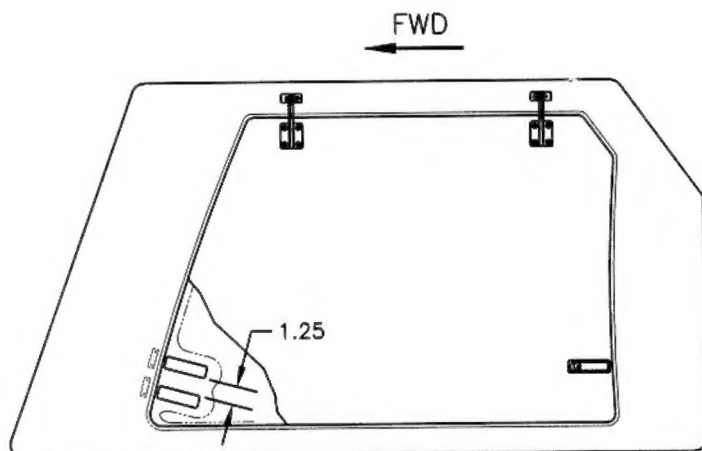

FIGURE 1. ADDITIONAL LATCH CUTOUT
2. LOCATE AND MAKE LATCH CUTOUT AS SHOWN IN FIGURE 1 USING D2621 LATCH PLATE AS A TEMPLATE. TRIM TO FIT D2586 LATCH.